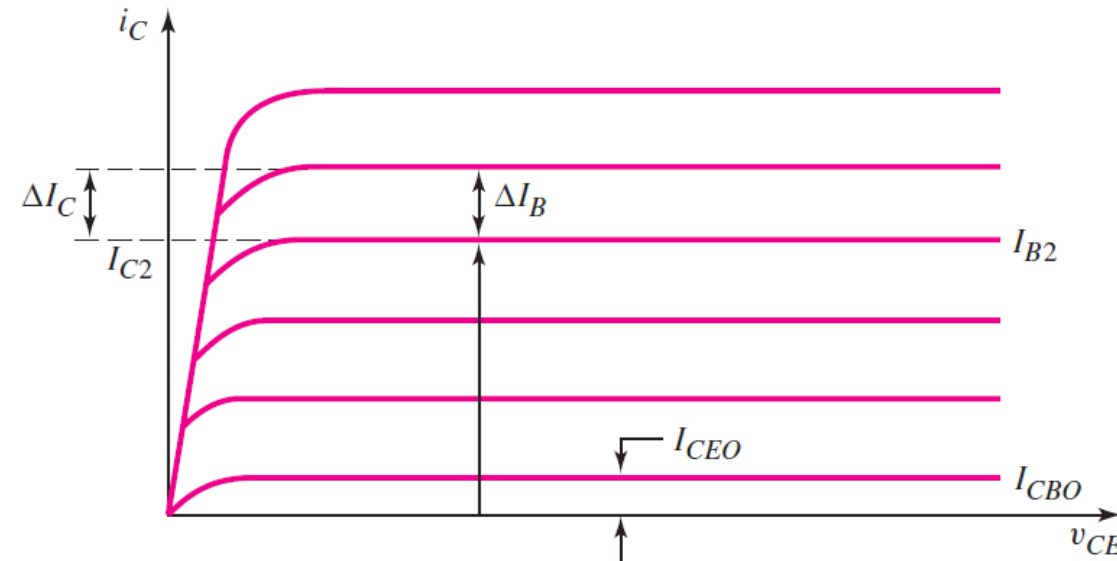

Figure 5.16
- Common-emitter current–voltage characteristics are shown in Figure 5.16, in which the **leakage current** has been included.